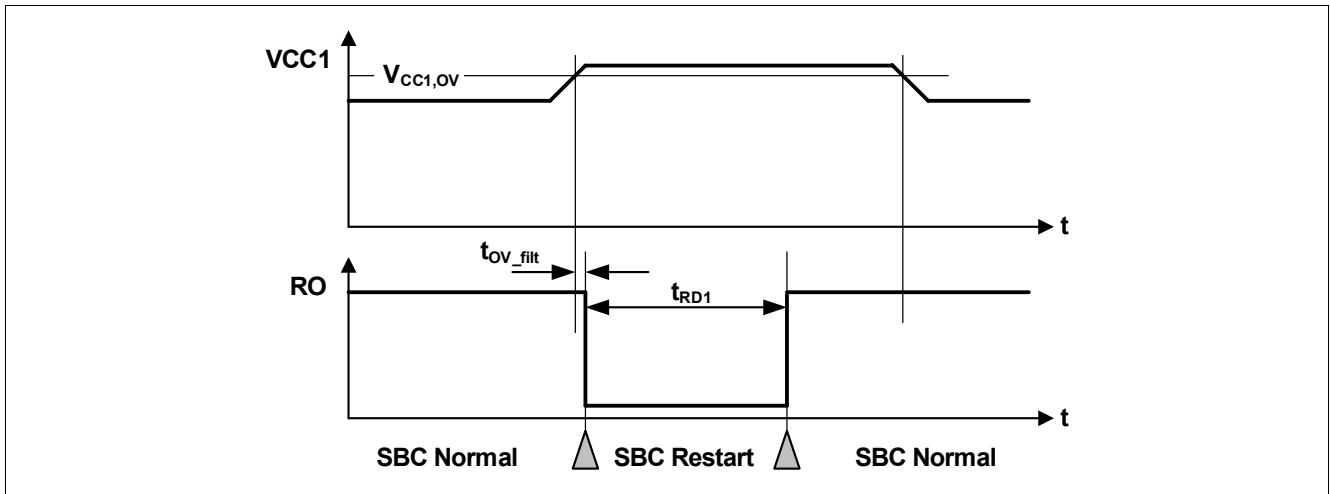

Figure 54 VCC1 Over Voltage Timing Diagram
- If the bit **VCC1_OV_RST** is set and **CFGP** = '1', then SBC Restart Mode is entered. The FOx outputs are activated. After the reset delay time (t_{RD1}), the SBC Restart Mode is left and SBC Normal Mode is resumed even if the VCC1 over voltage event is still present (see also Figure 54). The **VCC1_OV_RST** bit is cleared automatically;